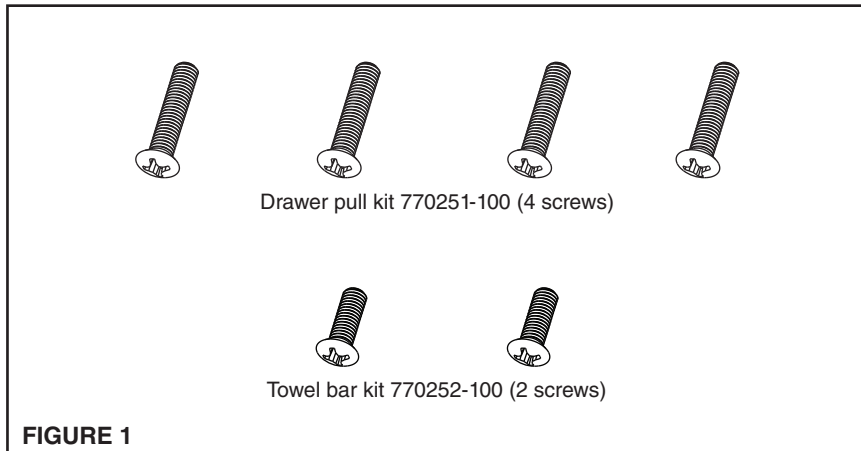

FIGURE 1
1. Assemble two drawer pulls to vanity using supplied M5 x 25 screw mounting kit 770251-100 or assemble towel bar to washstand using supplied M8 x 25 screw mounting kit 770252-200 (Figure 1). Note that the drawer pulls and towel bar are required accessories that are purchased separate from the furniture itself.